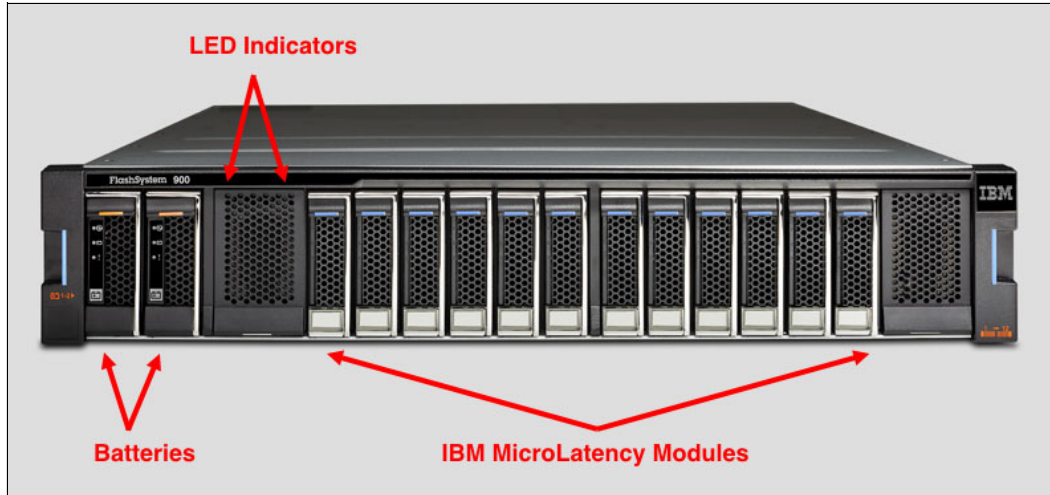

Figure 15 Front view of FlashSystem V9000 storage enclosure
- ▶ IBM FlashSystem V9000 storage enclosure includes two RAID controller modules, two battery modules, one power interposer, two power supplies, four interface cards, four fan modules, four to twelve flash memory modules, and one mid-plane. As viewed from the front of the storage enclosure (see Figure 15), two battery modules are at the far left of the enclosure, and 12 flash module slots are to the right of the battery modules. The front bezel of the systems contains the status LEDs.
Figure 15 shows the front view of the V9000 storage enclosure.